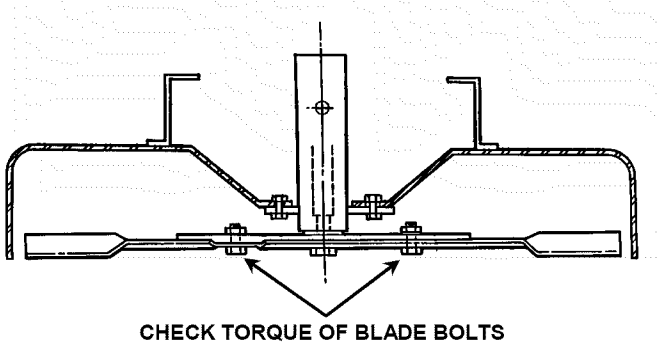

FIGURE 3.1
2. Tilt mower up on its rear wheels for access to the blade bolts. Do not tilt mower with spark plug or carburetor down. See Figure 3.1.